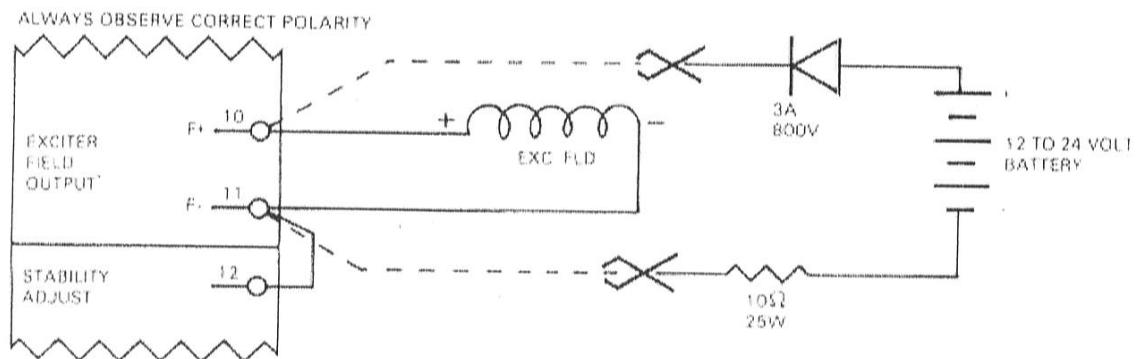

Figure 10B
6. If field flashing is required, refer to Figure 10B.